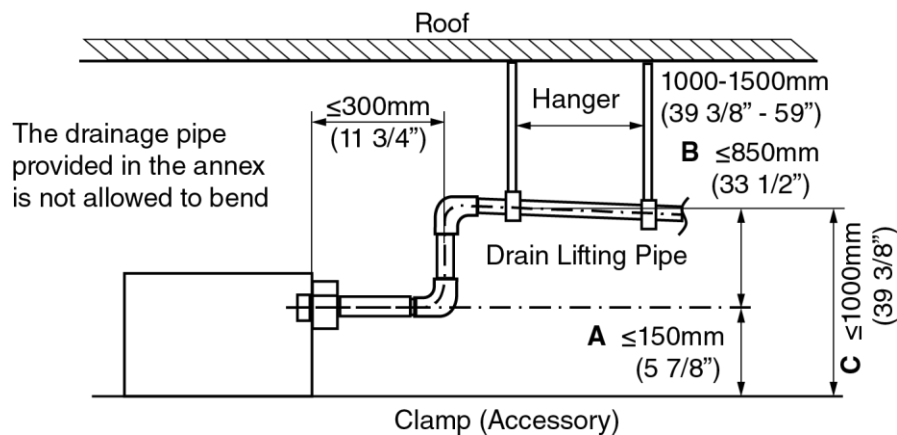

Fig. 17
- The installation height for the raising pipe for drainage should be lower than B. The gradient from the raising pipe towards the drainage direction should be at least 1%~2%. If the raising pipe is vertical with the unit, the raising height should be less than C (Fig. 17).